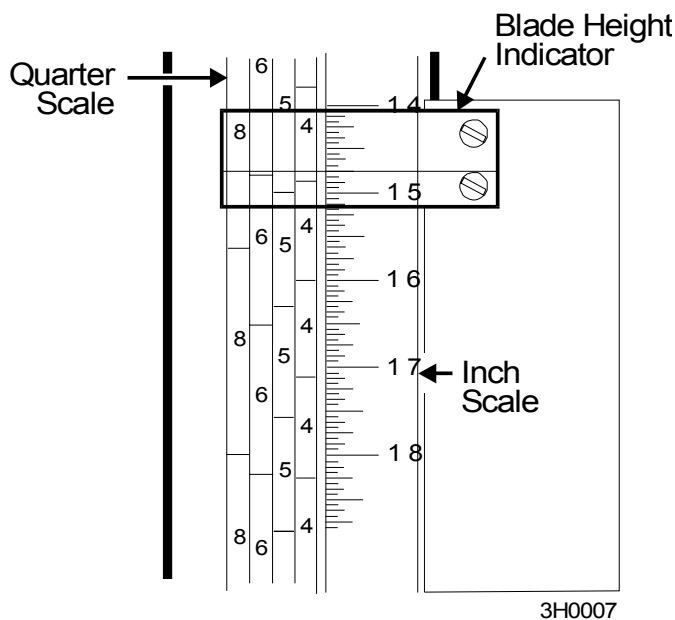

FIG. 7-45
**See Figure 7-45.** Loosen the indicator bracket mounting bolts and adjust the bracket until the indicator is aligned with the correct mark on the scale. Retighten the bracket mounting nut.